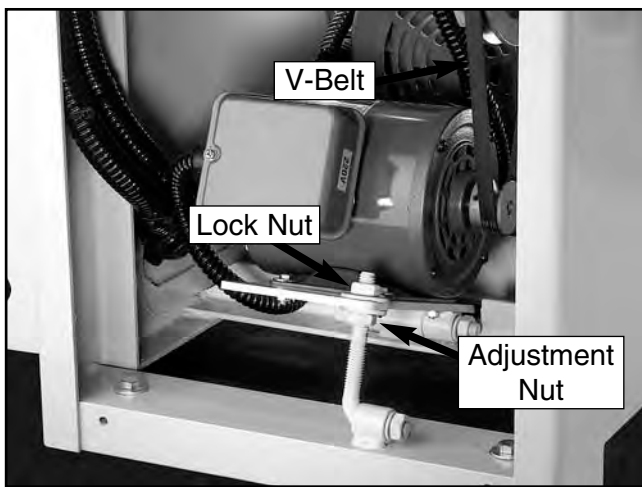
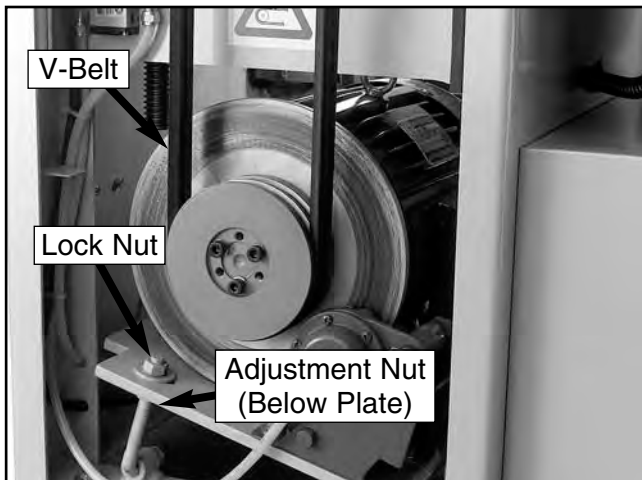

Figure 23. Table lifting motor V-belt.
Figure 24. Sanding drum motor V-belt.
There are two V-belts on the Model G0527—one on the table lifting motor (Figure 23) and one on the sanding drum motor (Figure 24).
2. Loosen the lock nut (Figure 23 & 24).